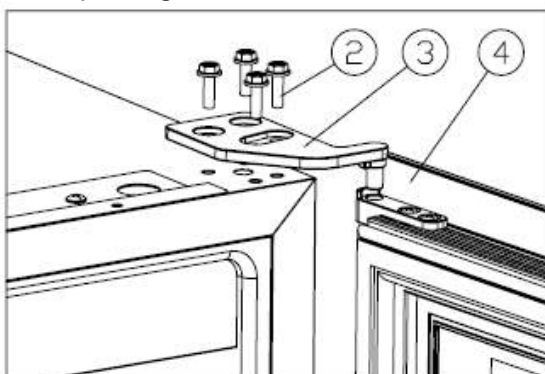

Figure 1
- ✧ Unscrew the M5*16screws(2),dismantle the right upper hinge(3),and remove the door.[Figure 1].